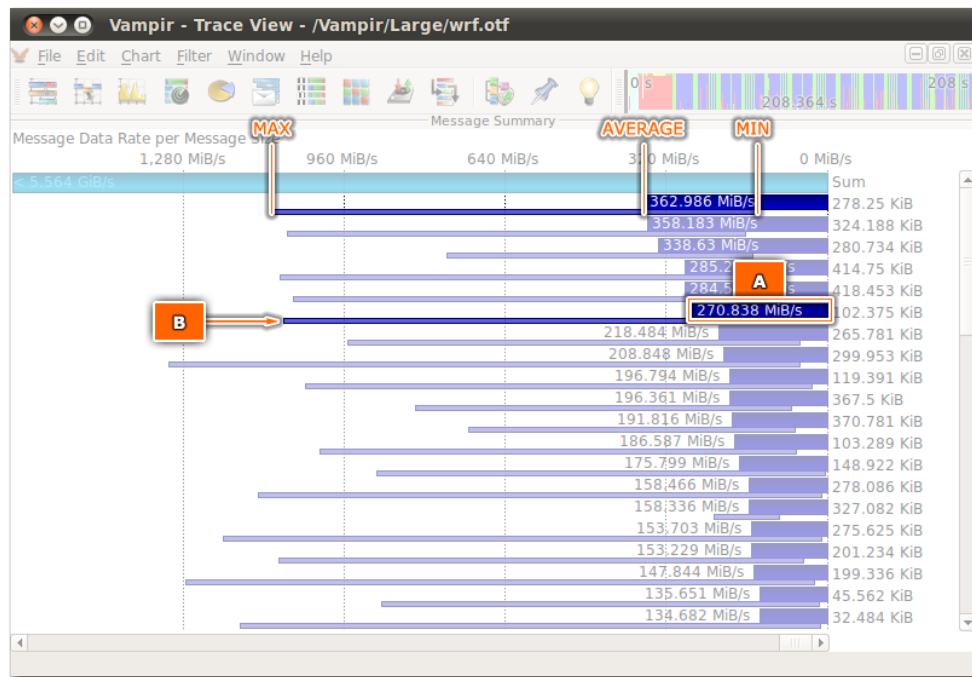

Figure 4.22: Message Summary Chart with metric set to *Message Transfer Rate* showing the average transfer rate (A), and the minimal/maximal transfer rate (B)
The *Message Summary* is a statistical chart showing an overview of all messages grouped by certain characteristics, Figure 4.22.
**Note:** There will be one bar for every occurring group. However, if the metric is set to *Message Transfer Rate*, the minimal and the maximal transfer rate is given in an additional small bar beneath the main bar showing the average transfer rate. The additional bar starts at the minimal rate and ends at the maximal rate, see Figure 4.22.
**Note:** There will be one bar for every occurring metric. Furthermore, the value type *Average & Range* gives a quick and convenient overview and shows minimum, maximum, and average values at once. The minimum and maximum values are shown in an additional, smaller bar beneath the main bar indicating the average value. The additional bar starts at the minimum and ends at the maximum value of the metric, see Figure 4.22.